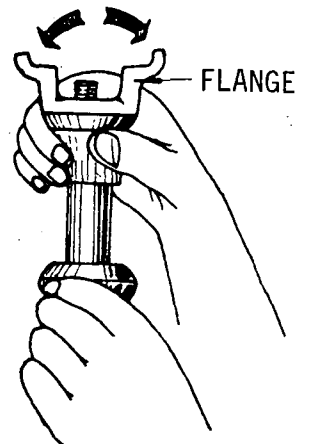

Fig. 1
- c) Make sure that the splines of the pinion are not worn or deformed and check the play by using the pinion flange (fig. 1).